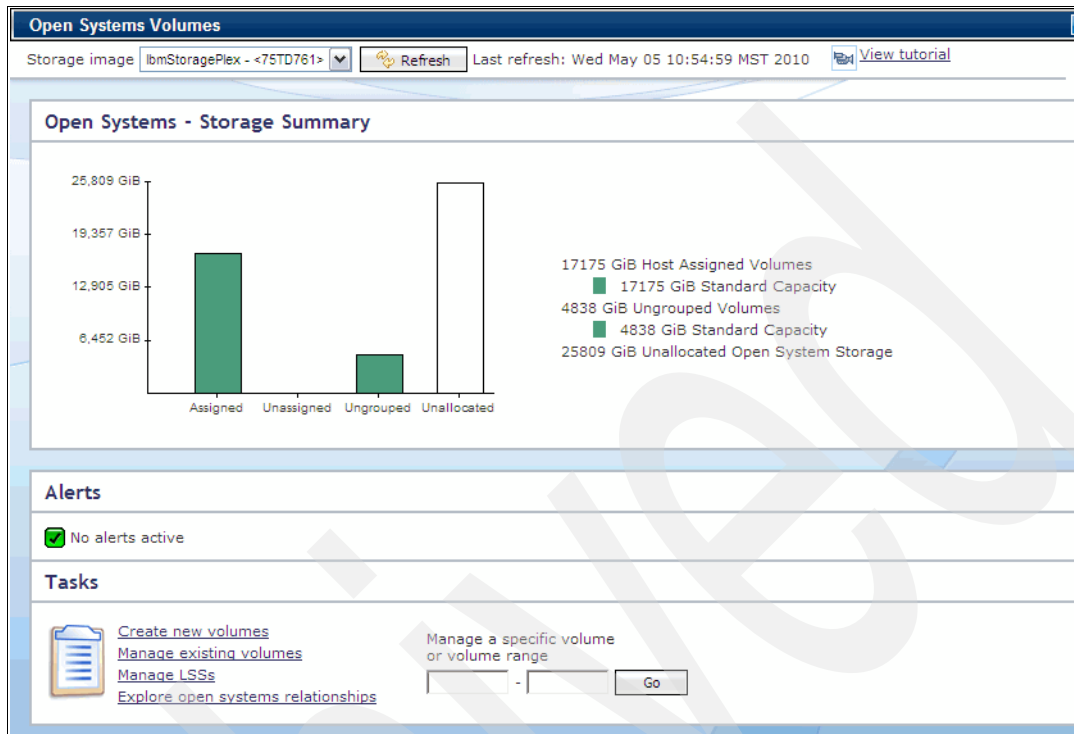

Figure 13-55 Open Systems Volumes window
2. Select **Open Systems Volumes** to open the Open Systems Storage Summary window shown in Figure 13-55.